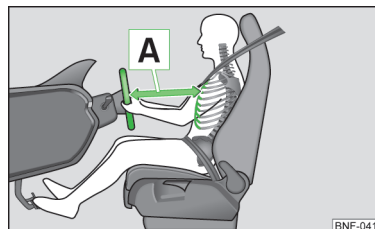

Fig. 1
- ✓ Adjust the steering wheel so that the distance **A** between the steering wheel and your chest is at least 25 cm » Fig. 1.